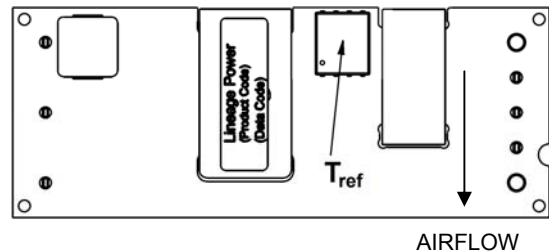

Figure 13. T_{ref} Temperature Measurement Location for open Frame Module.
To provide protection under certain fault conditions, the unit is equipped with a thermal shutdown circuit. The unit will shutdown if the thermal reference point T_{ref} (Figure 13), exceeds 150 $^{\circ}$ C (typical), but the thermal shutdown is not intended as a guarantee that the unit will survive temperatures beyond its rating. The module can be restarted by cycling the dc input power for at least one second or by toggling the remote on/off signal for at least one second. If the auto-restart option (4) is ordered, the module will automatically restart upon cool-down to a safe temperature.
The thermal reference point, T_{ref} used in the specifications for open frame modules is shown in Figure 13. For reliable operation this temperature should not exceed 122°C.